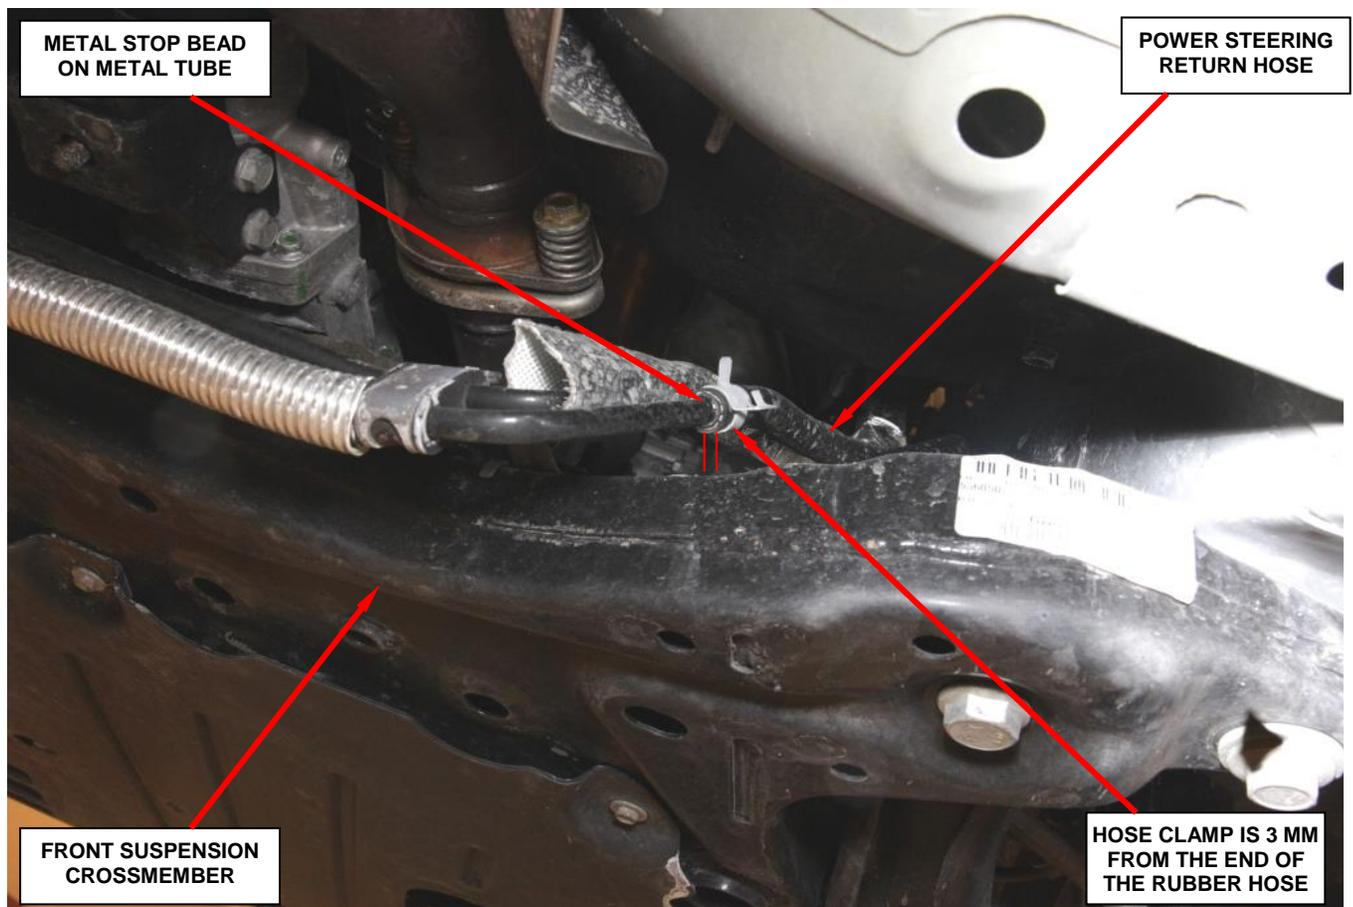

Figure 1 – Correctly Located Power Steering Return Hose Clamp
- If the power steering return hose is pushed against the metal stop bead on the metal tube, the clamp is 3mm from the end of the hose and the wings of the clamp are between the 12 o'clock and 3 o'clock position, the clamp was installed correctly (Figure 1). Lower the vehicle from the hoist and return the vehicle to the customer.
4. Expand the new hose clamp with hose clamp pliers and slide the hose clamp into position on the power steering return hose (Figure 1). Position the hose clamp to 3mm from the end of the rubber hose, being sure that the wings of the hose clamp are between the 12 o'clock and 3 o'clock position.